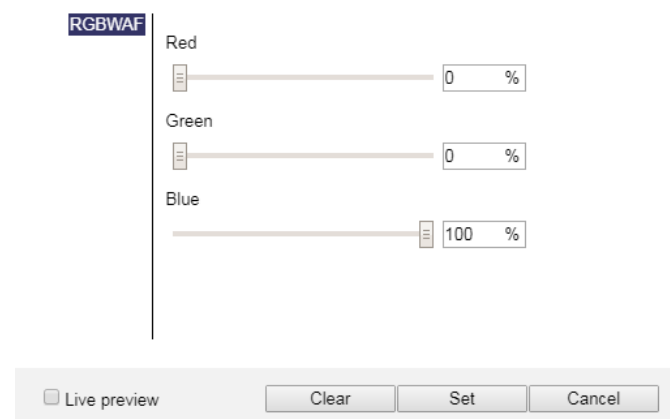

Figure 198: Scene colour selection for devices supporting colour type RGBWAF.
- **RGBWAF:** For this type the resulting colour is composed by selecting a percentage value of 0% to 100% for the intensity of up to six predefined channels (red, green, blue, white, amber and free colour). Figure 198 shows the corresponding user interface. Note, that a specific ballasts supporting RGBWAF might only support a subset of those six channels (e.g. only red, green, blue).